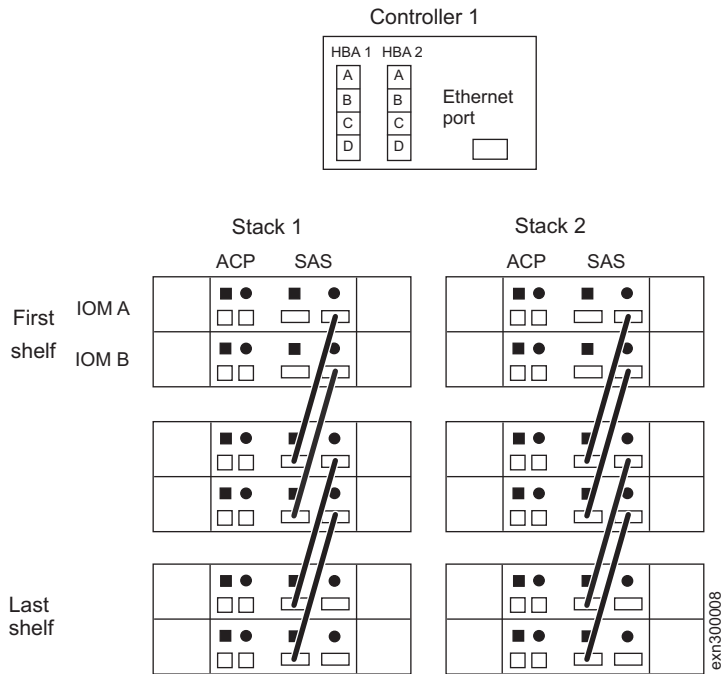

Figure 9. Daisy-chain the SAS ports
1. Daisy-chain the SAS ports, as shown in Figure 9 on page 8.